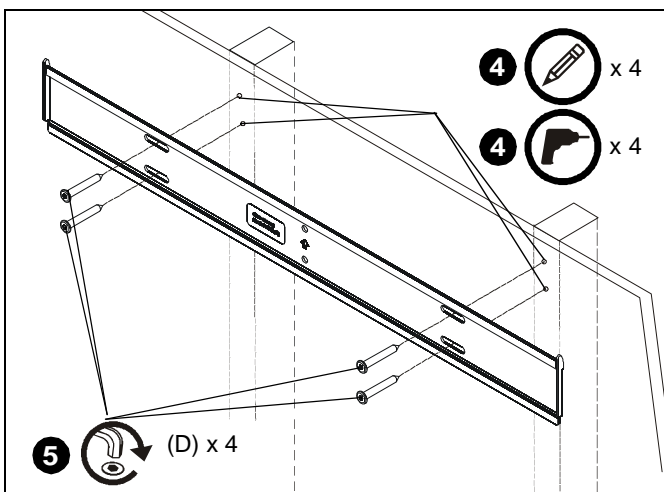

Figure 2
4. Using wall plate as template, mark and then drill four 3/16" diameter pilot holes, making sure the holes are centered in the middle of each stud. The holes must be drilled at least 2-1/4" deep. (See Figure 2)
5. Install four connector screws (D) through wall plate and into pilot holes using M4 Allen Head bit (C). (See Figure 2)